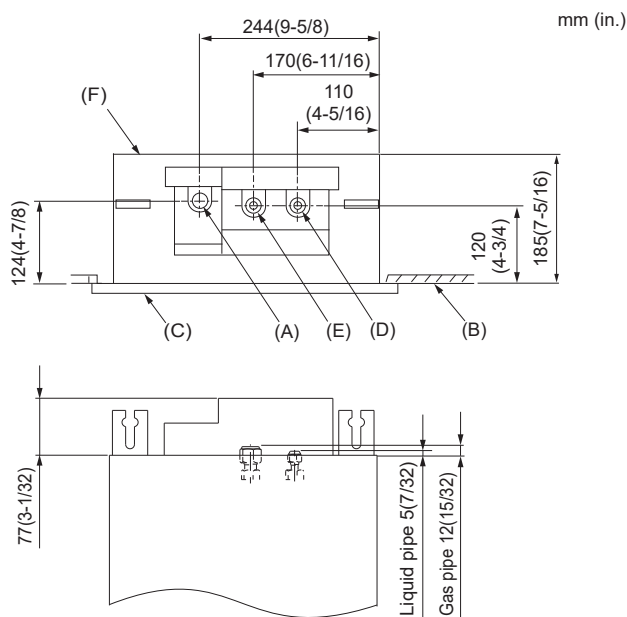

Fig. 3-3
- (A) The centers of the ceiling opening and the indoor unit should be aligned.
- (B) Outer side of grille
- (C) Ceiling opening
- (D) Bolt pitch
- (E) Electric box
3.3. Refrigerant and drainage piping locations of indoor unit (Fig. 3-3)
- (A) Drain pipe
- (B) Ceiling
- (C) Grille
- (D) Refrigerant pipe (liquid)
- (E) Refrigerant pipe (gas)
- (F) Main unit